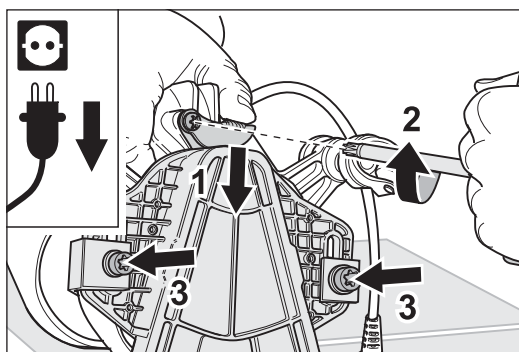

Fig. 37 Hold the FLIP® by the fan housing, press on the belt tightening plate (1) and retighten the three screws (2 and 3).
- 5 Hold the FLIP® by the fan housing and press the belt tightening plate forward towards the attachment at the same time with your thumb (fig. 37, 1). Use your other hand and the universal spanner to retighten the three screws (fig. 37, 2 and 3).